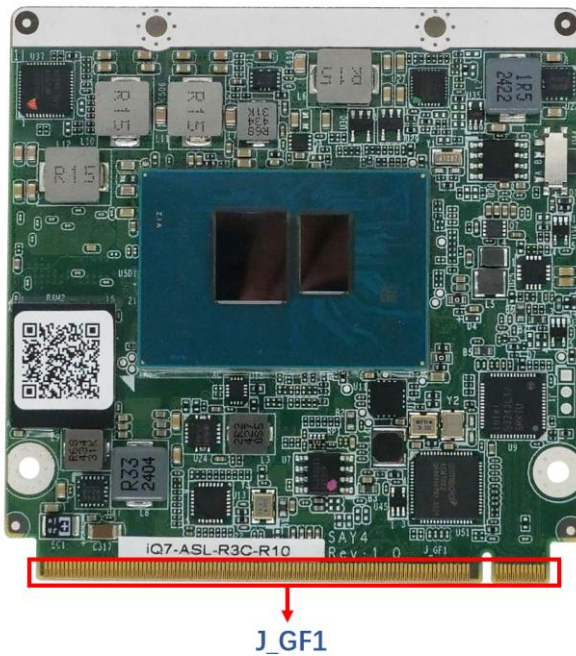

Figure 3-1: Qseven Connector Location
- CN Location:** See **Figure 3-1**